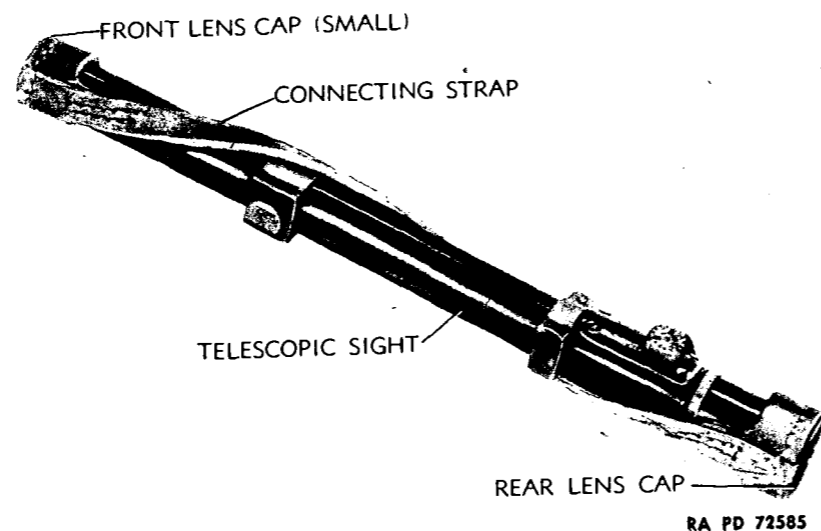

Figure 6 — Weaver Telescopic Sight No. 330 C — Showing Lens Caps in Position
(6) A lateral adjusting screw is threaded into the right and left sides of the mount base at the rear end. The cupped heads of these screws bear in radial notches in the flat lug on the rear mount ring attached to the sight when assembled to the base, thereby holding the rear end of the sight down on the base. By means of these two screws the rear mount ring can be shifted laterally thereby swinging the alinement of the sight to left or right to align for "zero windage" (bore line) of the rifle with which it is used. The rifle is zeroed for windage at manufacture and the *left* lateral adjusting screw is staked in place and should not be shifted or removed. Further adjustments for windage are made by means of the windage screw on the left side of the sight.
(7) The sight, with mount rings attached, is mounted to the mount base by means of the dovetailed lug on the front mount ring engaging in the undercut mating recess in the mount base, and the two lateral adjusting screws on the base which engage notches in the sides of the lug on the rear mount ring as explained above. Mounting, dismounting, and adjustment of the sight are explained in paragraphs 9 and 10.
(8) Two leather lens caps connected by a strap are issued with the sight to protect the lenses when not in use. The use of these caps is explained in paragraph 9 a (5) and shown in figure 6.
(5) When the sight is mounted, place the larger of the two leather lens caps over the eyepiece and the smaller over the front end of the sight. Then turn the front cap, twisting the strap around the sight tube until it draws the two caps snugly together. Removal is accomplished by reversing the procedure. Figure 6 shows caps in place.